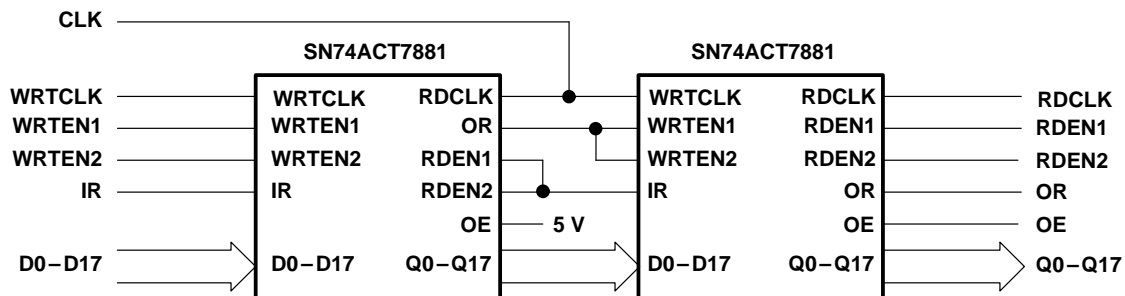

Figure 9. Word-Depth Expansion: 2048/4096/8192 Words × 18 Bits, N = 2
The SN74ACT7881 is expandable in both word width and word depth. Word-depth expansion is accomplished by connecting the devices in series such that data flows through each device in the chain. Figure 9 shows two SN74ACT7881 devices configured for word-depth expansion. The common clock between the devices can be tied to either the write clock (WRTCLK) of the first device or the read clock (RDCLK) of the last device. The output-ready flag (OR) of the previous device and the input-ready flag (IR) of the next device maintain data flow to the last device in the chain whenever space is available.